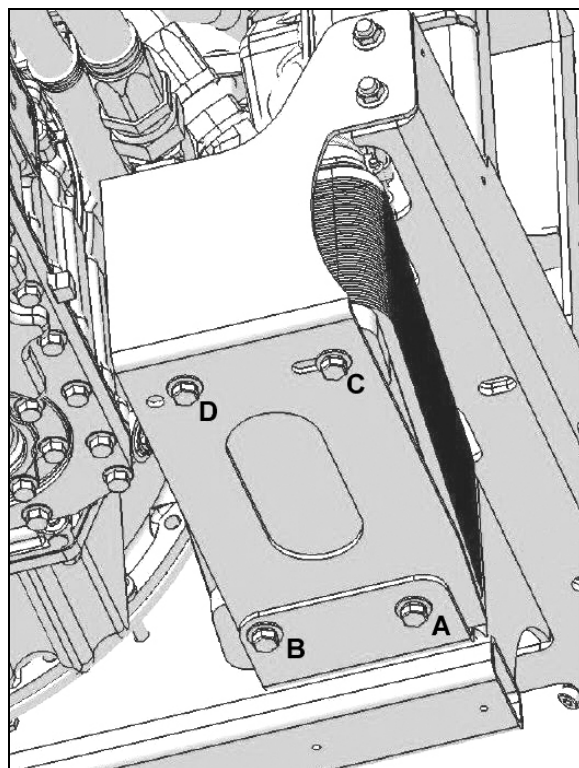

FIGURE 12: NORMAL OIL COOLER POSITION
2. Remove bolts B and D. Untighten bolts A and C then pivot oil cooler as per figure 12. Install bolts B and D and tighten all bolts.